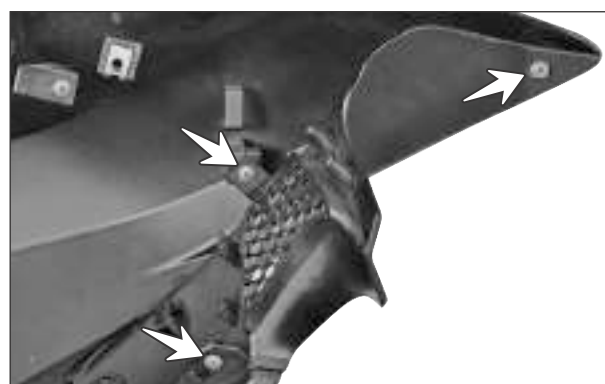

Fig. 2.16
- Remove the CRR flanged pan head tap screw (ST4.2x13 - 3 nos.) from the mounting of cover fuel tank inner R. (Fig. 2.16)